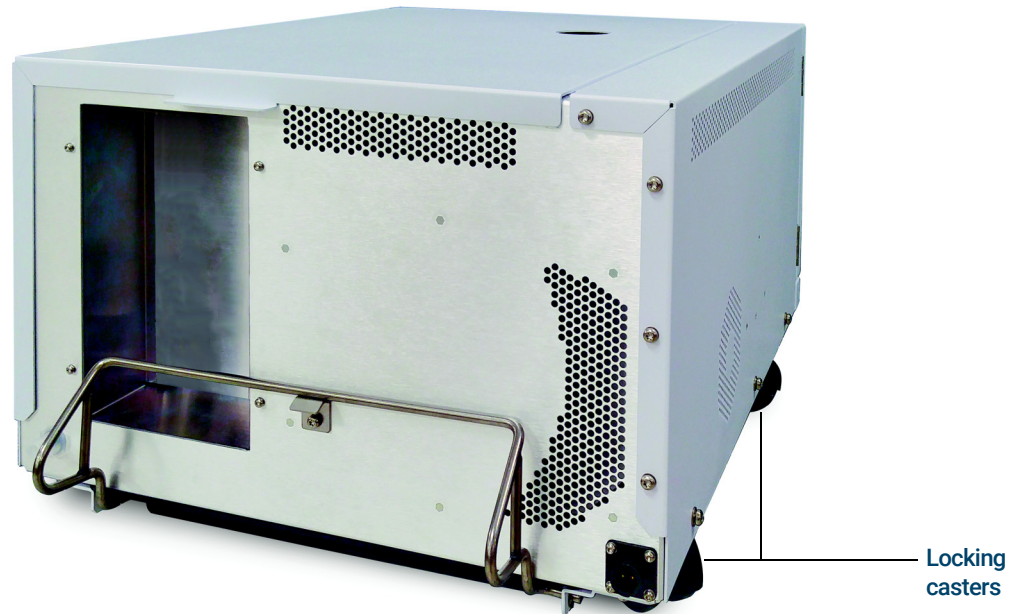

Figure 14. Locking casters on the front of the Quiet Cover MS
- 2 Lock the two locking casters located on the front of the Quiet Cover MS (**Figure 14**).